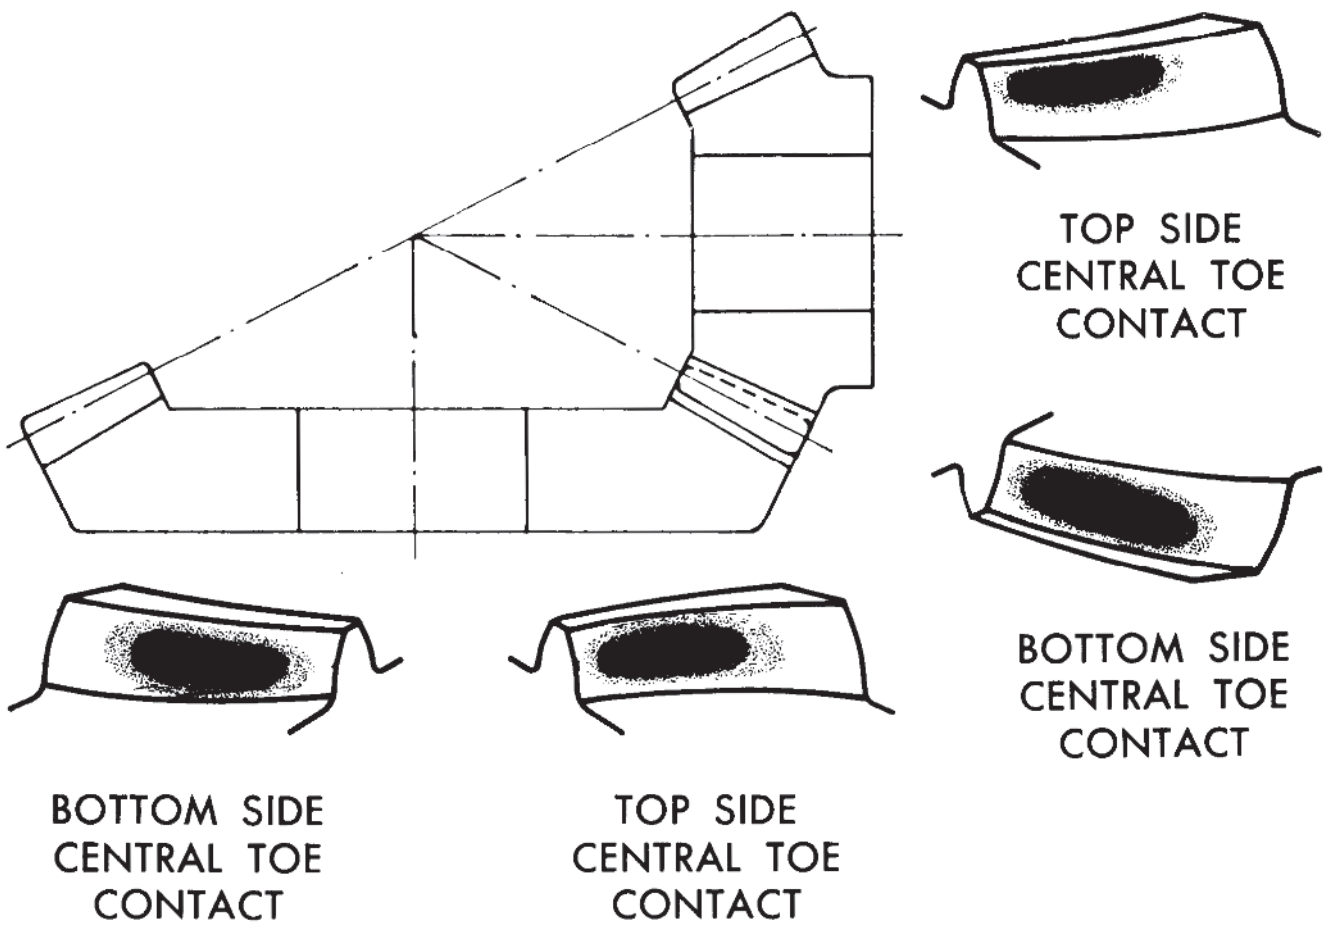

Figure 7
Note: When looking at Figures 7 through 10, make sure the orientation of the picture is consistent with the orientation of the gears in the gear drive. The "pinion" is always the smaller member in the gear set and the "gear" is the larger member of the gear set.
8.3 The correct tooth contact for a gear set is shown in Figure 7. If the tooth contact is correct, and the backlash is within limits, proceed to Step 10.0. If the tooth contact is correct, and the backlash needs to be corrected, proceed to Step 9.0.